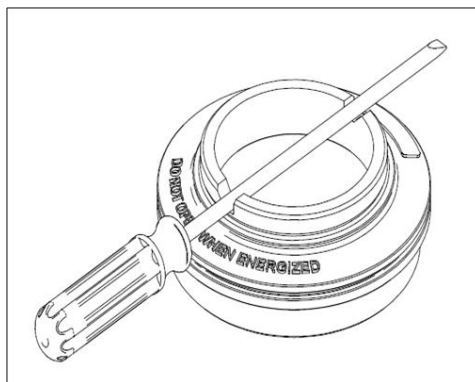

Fig. 7.2
- 2) Loosen the allen screw (3) by turning it two times to release the anti-rotation bracket (4) from the metal lid (2).
- 3) Rotate the metal lid (2) counterclockwise manually to detach it from the housing (1). If manual rotation is not possible, turn the plastic lid (9) counterclockwise manually to release it from the metal lid (2). Then use a long screwdriver to rotate the metal lid counterclockwise, as shown in the figure 7.2. Keep the metal lid (2) and o-ring (10) at safe place.